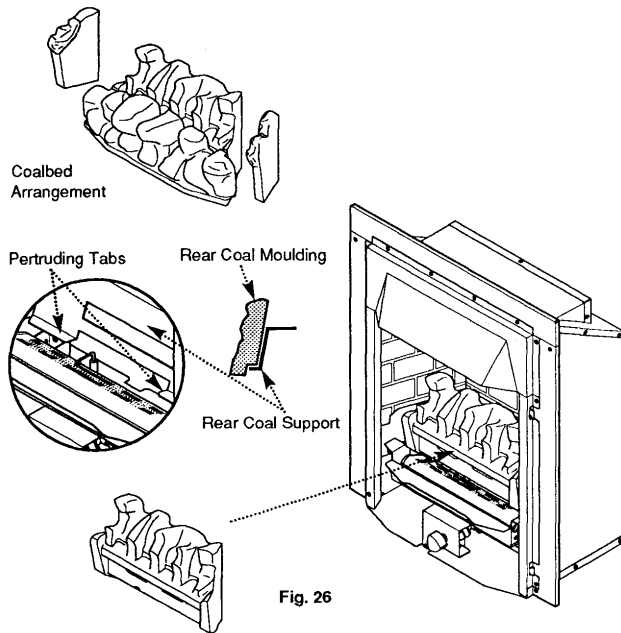

Fig. 26
1. Carefully position the rear coal moulding into the rear of the fire. The undercut in the base of the moulding should rest on the pertruding tabs of the rear coal support. The back face of the moulding should come to rest on the front face of the rear coal support and shall be centrally positioned (Fig. 26). Care should be taken that the rear coal moulding does not fall forward at this stage.